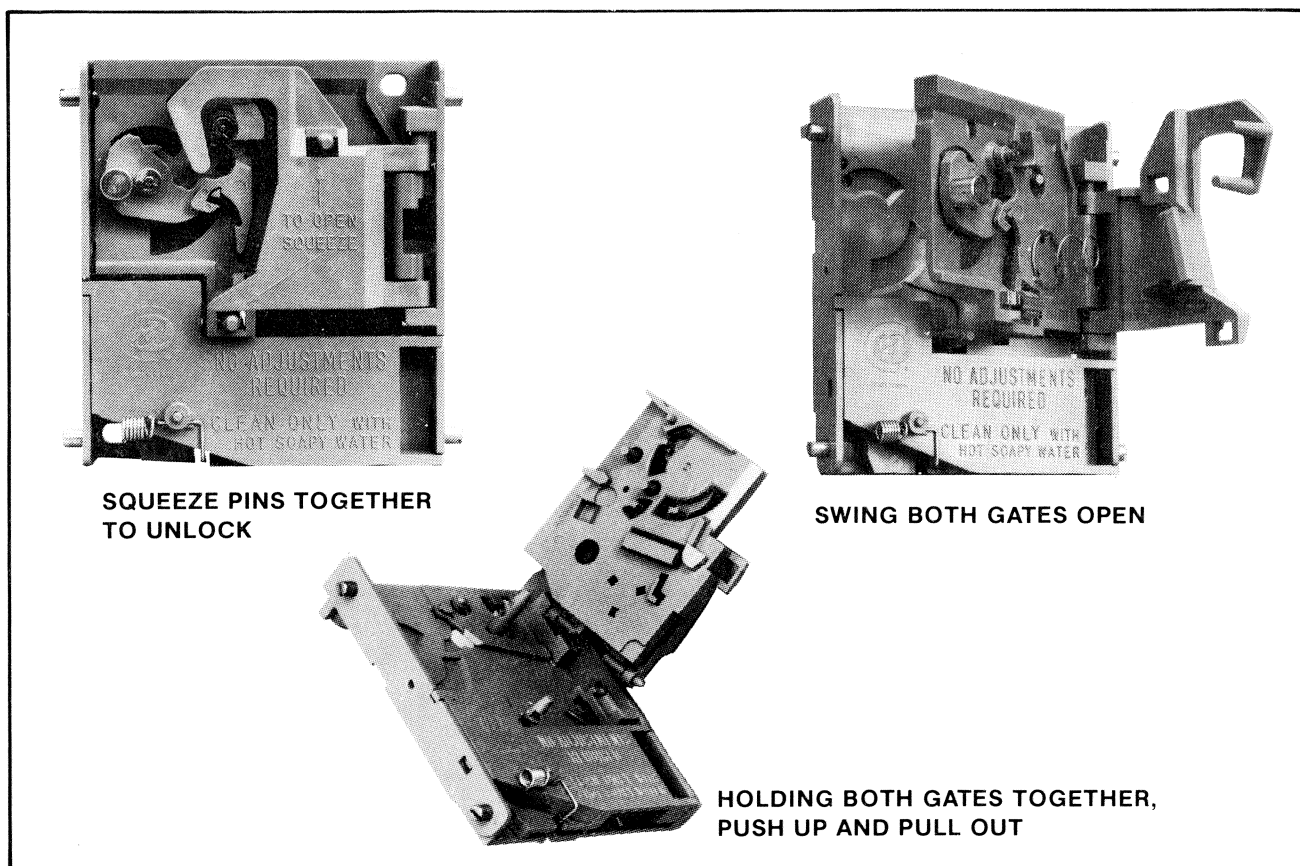

Figure 28 Opening the plastic coin acceptor
4. Squeeze the two pins indicated in Figure 28 together to open the mechanism and break it down into its three basic parts.